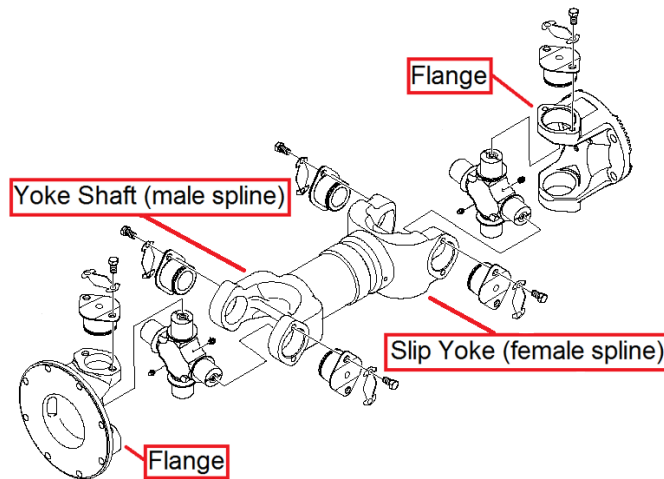

Figure 14: Exploded view of driveshaft parts
3. Refer to figure 14 for driveshaft part identification.